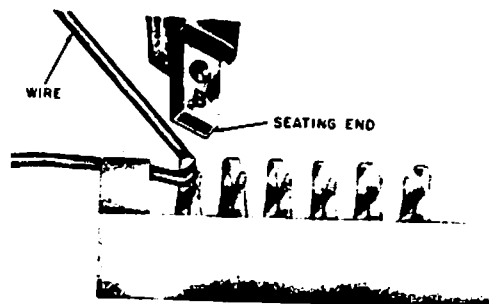

Figure 5. Preparation For Looping Termination
- Place wire into hook of terminal. See Figure 5.